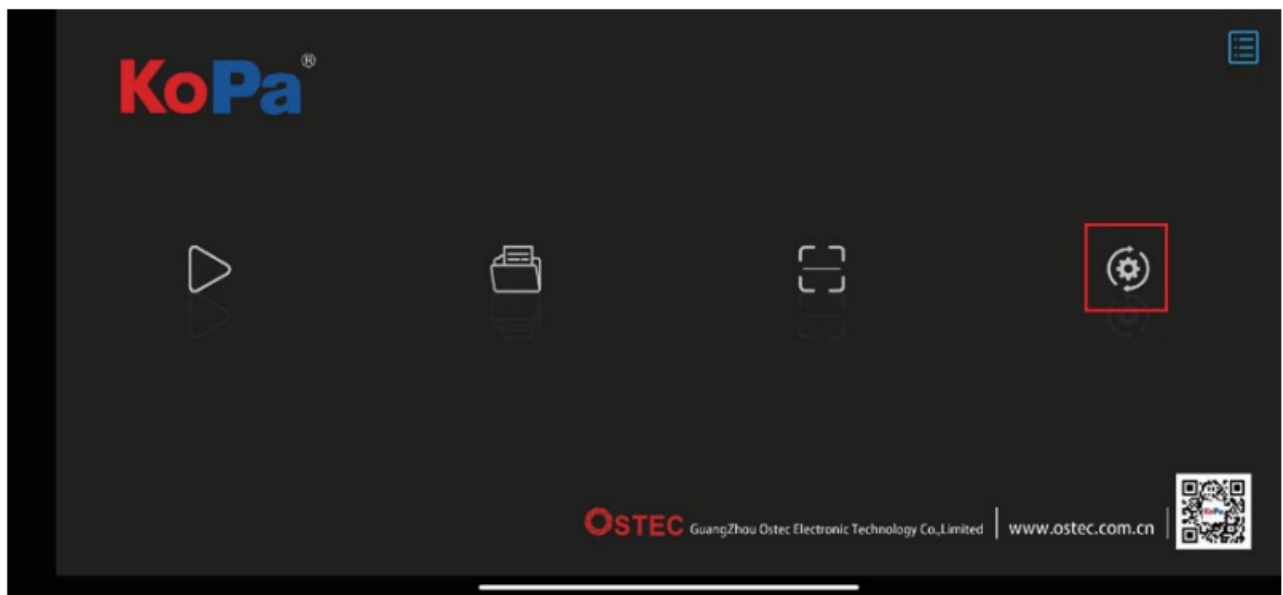
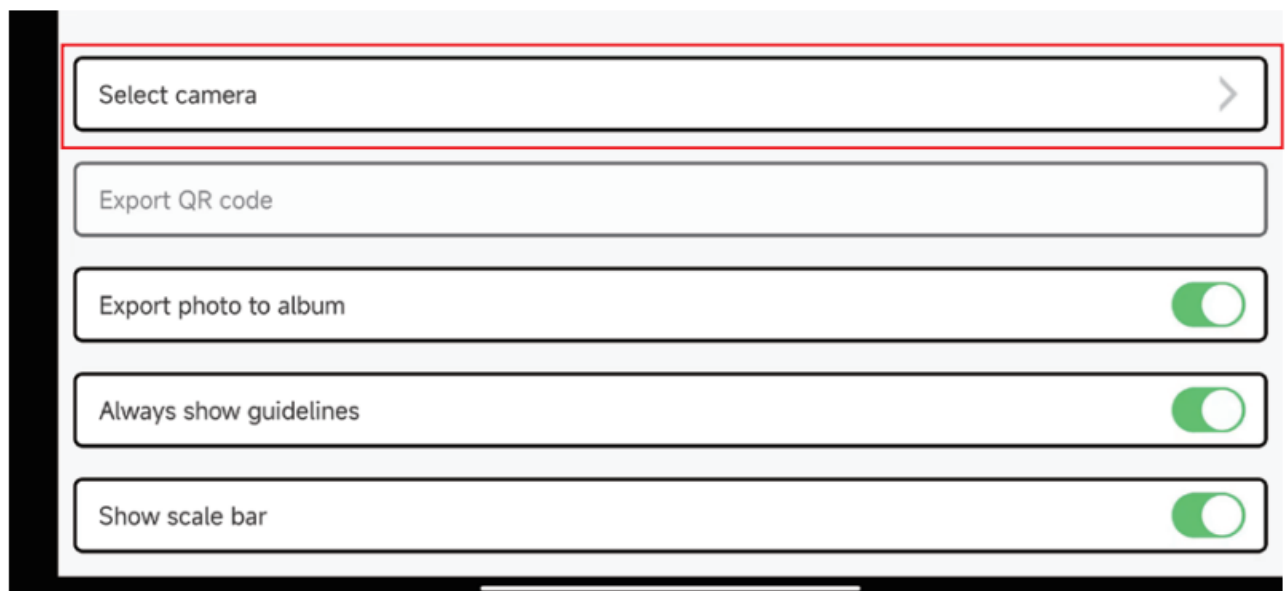
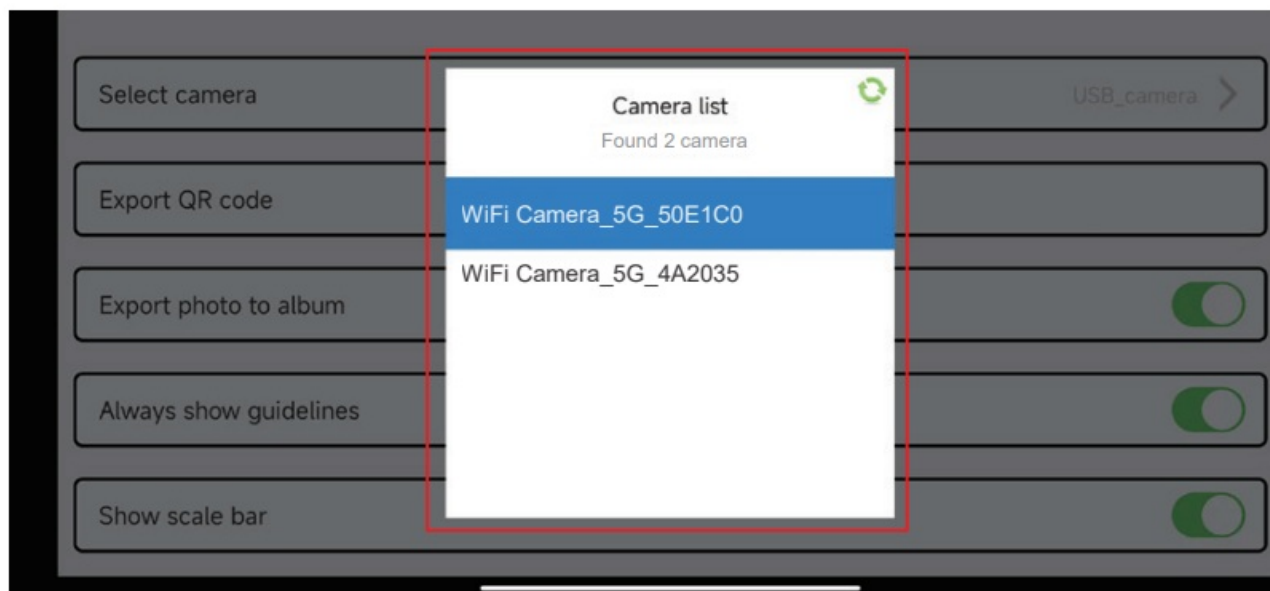

Figure 1
Figure 2
Figure 3
4. Switching method for multiple network cameras in the same local area network: Go to the APP (KoPa WiFi Lab) navigation interface, click the icon " " in the right (Figure 1), pop up menu (Figure 2). The list automatically shows all cameras in the current local area network (Figure 3), select a camera as needed, support switching midway at any time.